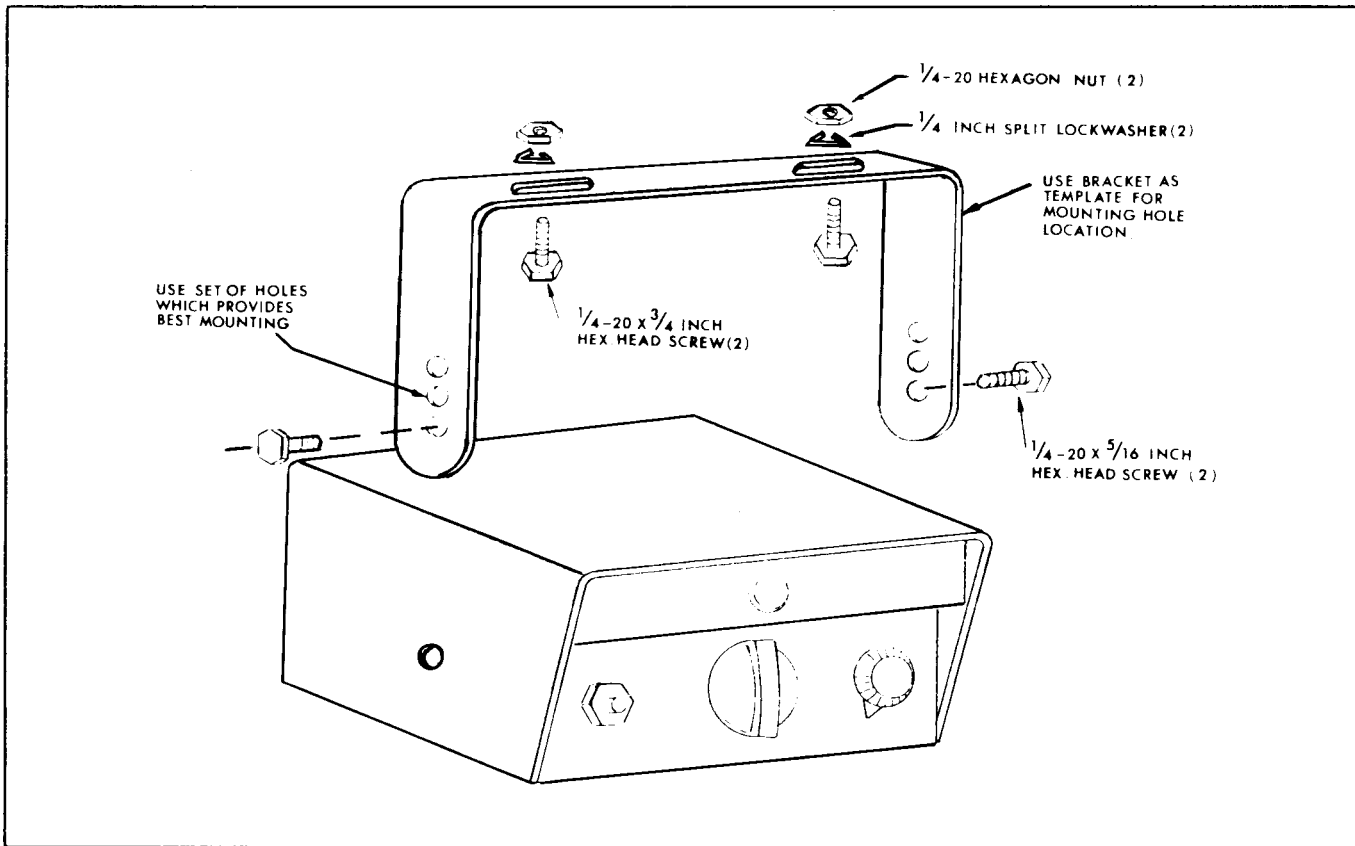

Figure 3. Installation of Mounting Bracket.
- C. Mount the bracket with the $\frac{1}{4}$ -20 x $\frac{3}{4}$ hexagon head machine screws, $\frac{1}{4}$ -20 hexagon nuts and $\frac{1}{4}$ -inch split lock washers as shown in figure 3.
The height of the unit above or below a surface may be adjusted by selecting a set of mounting holes in the bracket. Mount the unit to the bracket with the two $\frac{1}{4}$ -20 x $\frac{5}{16}$ hexagon head machine screws as shown in figure 3. The unit may be tilted to any convenient position.